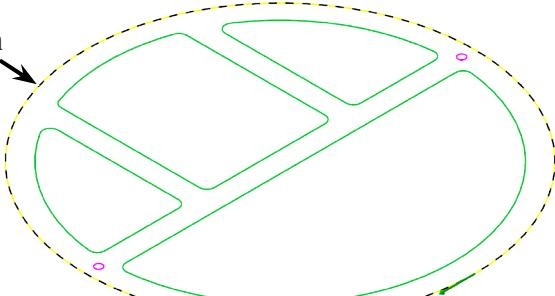

Fig. 28
Step 4. Click **Base circle** to chain, Fig. 28.